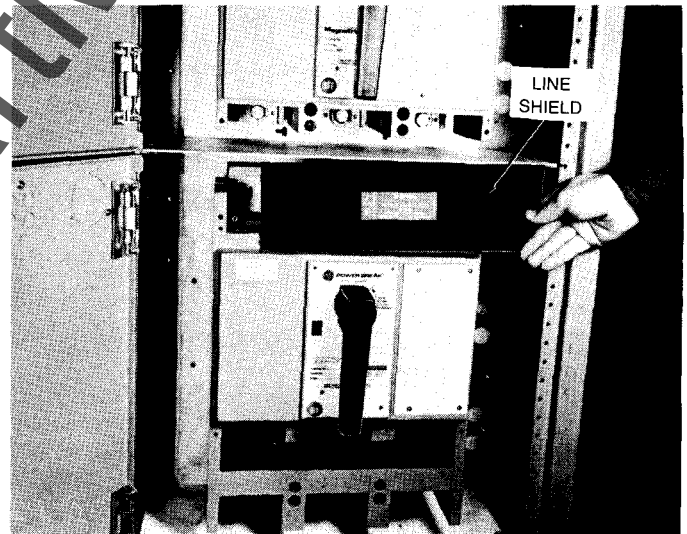

FIGURE 28.
2. Remove line shield. (Fig. 28).